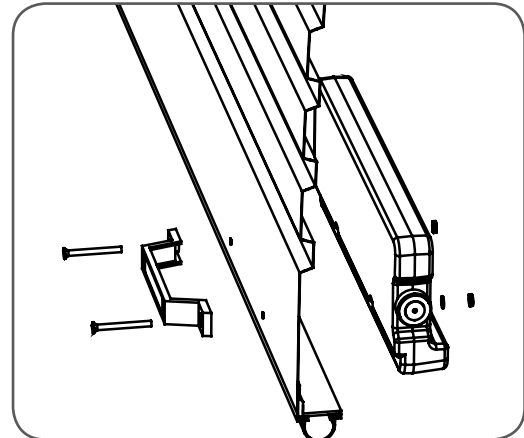

Fig.04
- b. Fit the weight bar and refit the handle using the new fasteners provided **(Fig.04)**.